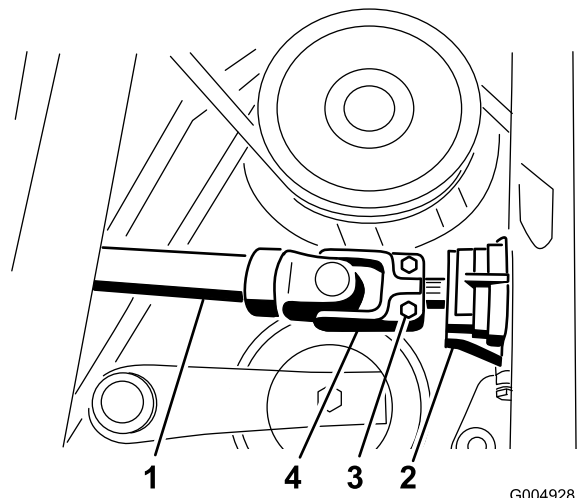

Figure 10
7. Slide the drive shaft onto the gearbox shaft (Figure 10). Install the roll pin and torque the bolts to 175-225 inch pounds.